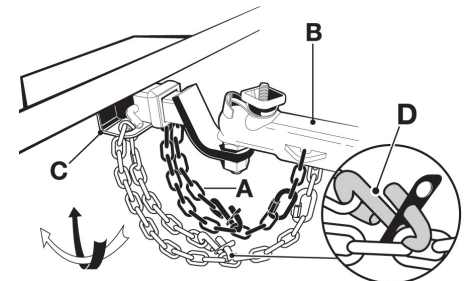

Figure 8
This trailer will have either safety chains or safety cables. Identify which type you have by referring to figure 8 and 10, then follow the instructions below (figures 8-9 or 10-11) for the type you have.
The left chain (A) crosses underneath the trailer tongue (B) and hooks to the right side of the tow vehicle permanent hitch (C), “D”-rings, frame or structure, or to the tow vehicle bumper brackets. (Figure 8) Do not attach chains to the ball or to a ball mount that is removable. The right chain hooks to the left side in the same manner. Crossing the chains under the tongue allows the minimum amount of slack for turning. The “S”-hooks (D) on safety chains can be hooked to the attachment holes on the hitch, if present, or passed through these holes and hooked back to a link in the chain. Control safety chain slack by hooking the chain back to itself or by twisting the links to shorten chain. Be sure the “S”-hooks are secured with a rubber retainer.